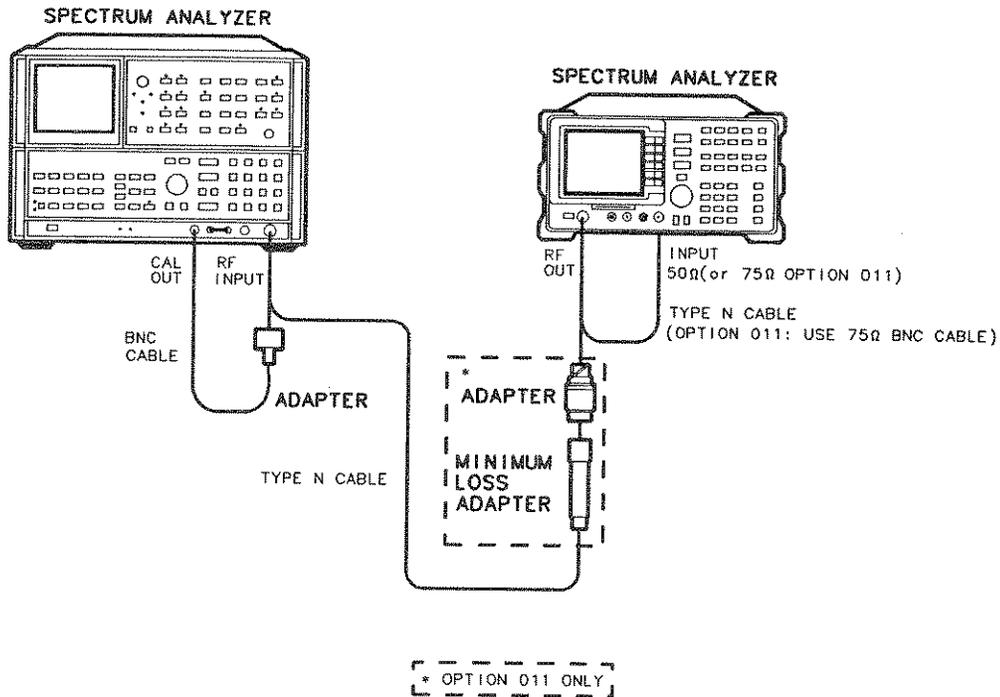

Figure 3-30. Non-Harmonic Spurious Outputs Test Setup
1. Connect the Type N cable between the RF OUT 50Ω and INPUT 50Ω connectors on the HP 8591A Spectrum Analyzer. See Figure 3-30.
7. Connect the Type N cable from the tracking generator output to the HP 8566A/B RF INPUT as shown in Figure 3-30.